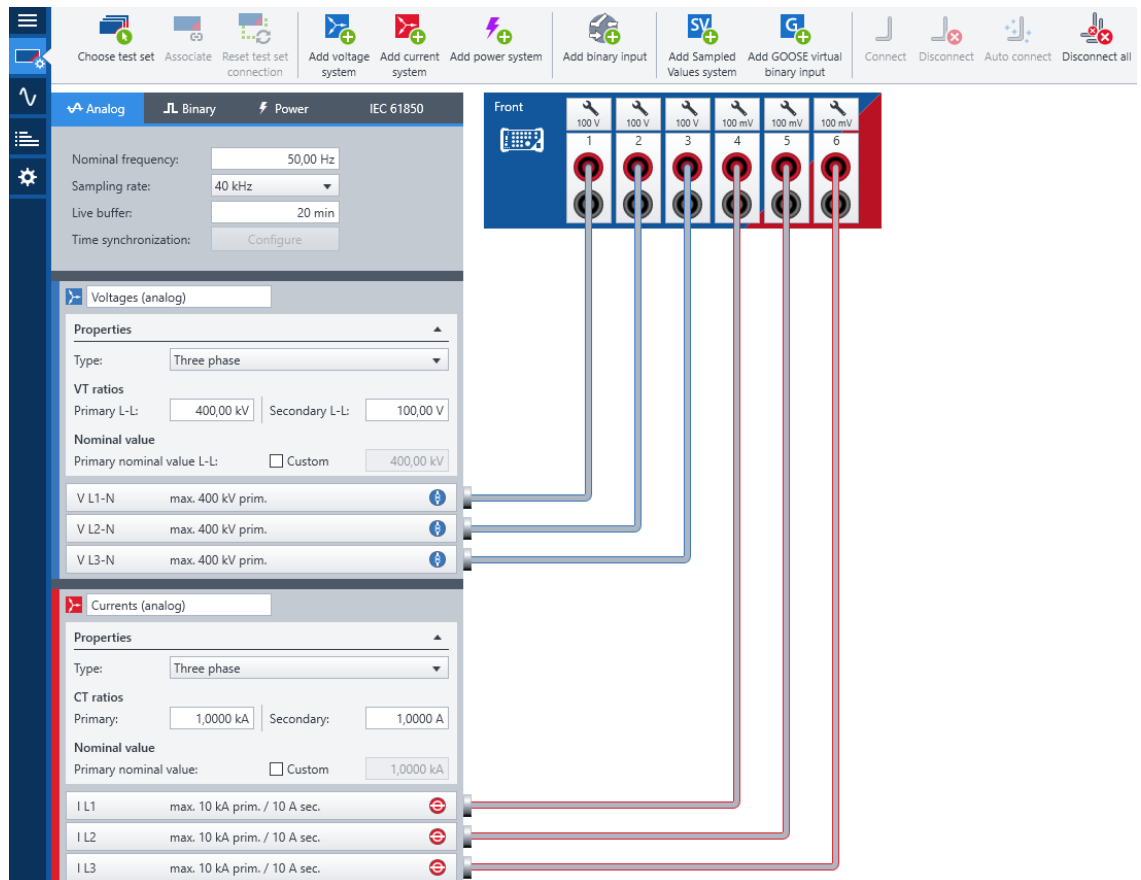

Figure 5: Test set configuration for analog measurement channels.
- c. Configuration of analog measurement channels, as exemplarily shown in Figure 5: